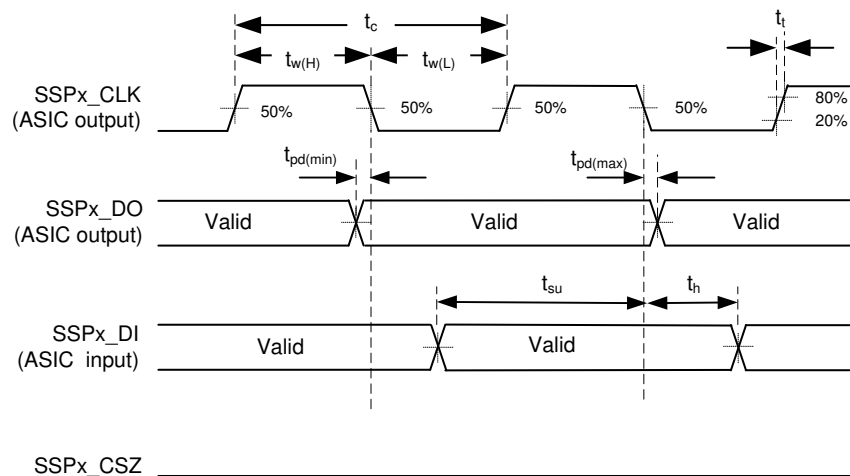
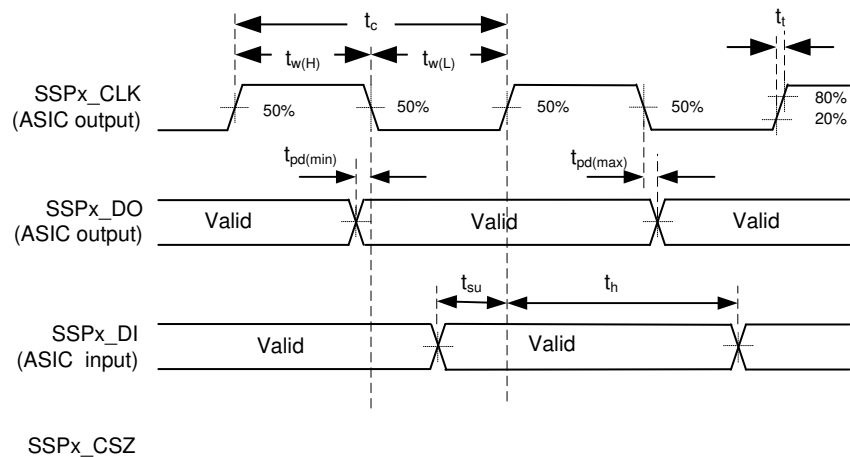

Figure 5-10. Synchronous Serial Port Interface—Master (Modes 0/3)
Figure 5-11. Synchronous Serial Port Interface—Slave (Modes 0/3)
- (1) The SSP is configured into four different modes of operation by the controller firmware. These modes are shown in Table 5-2, Figure 5-10, and Figure 5-11.
(2) SPI Modes 0 and 3
(3) SPI Modes 1 and 2